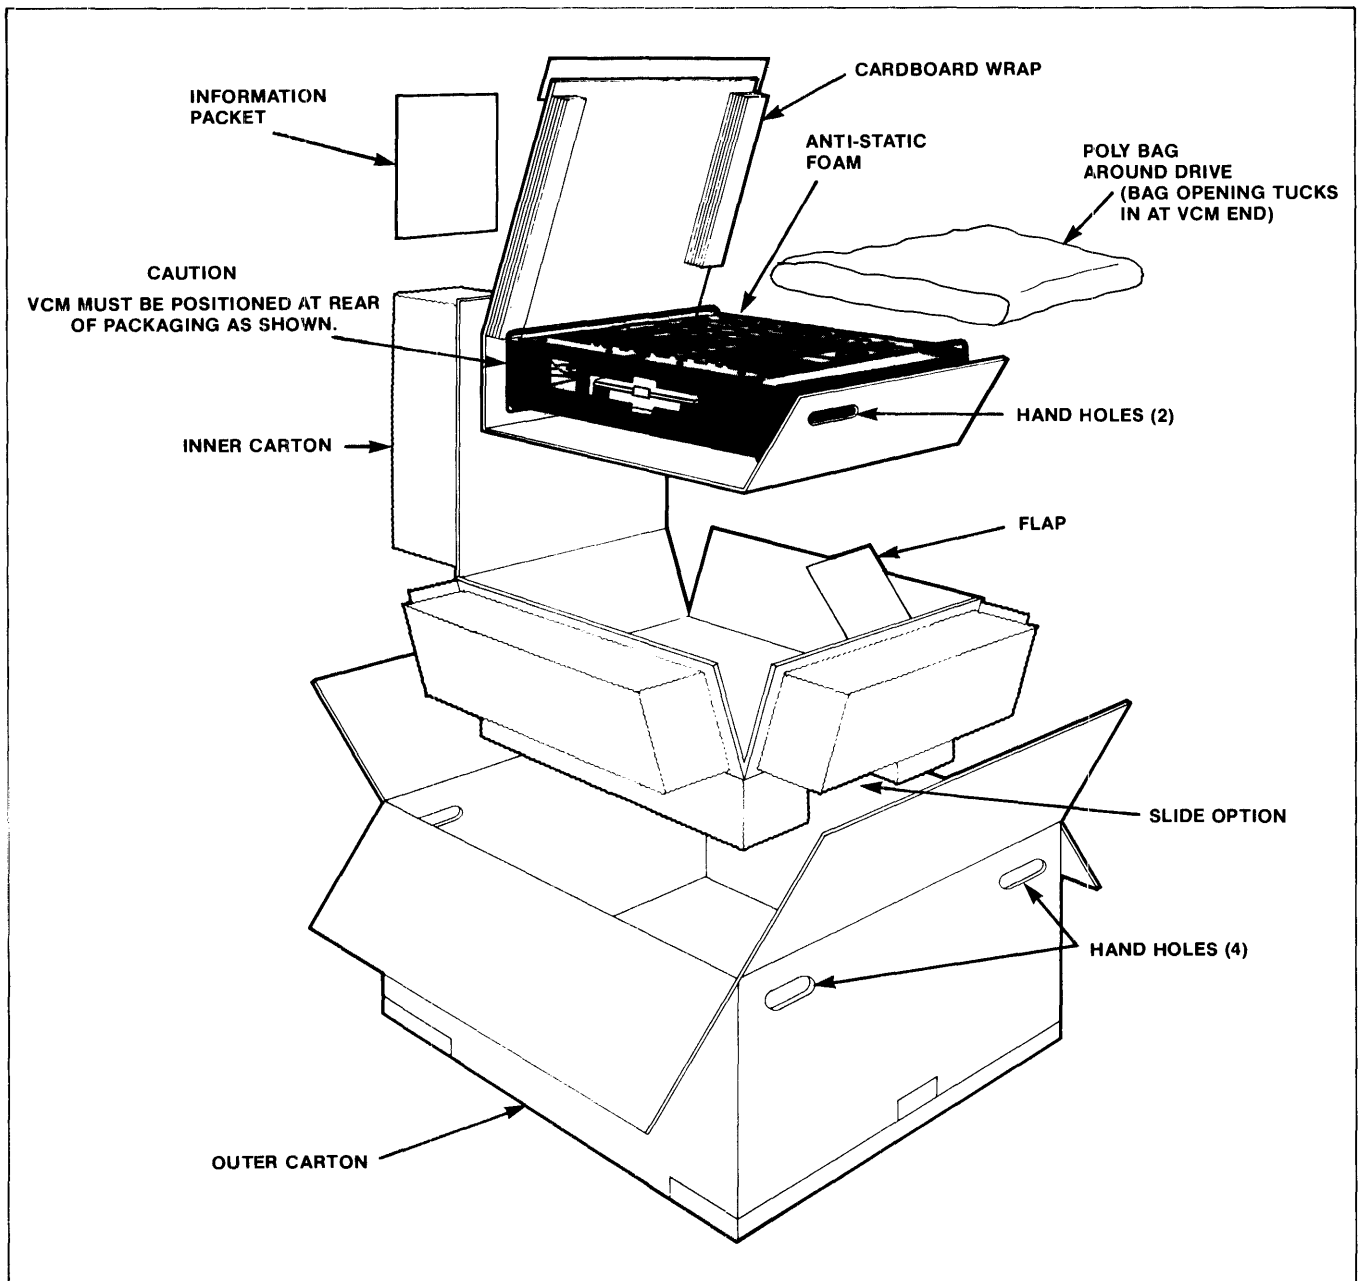

Figure 3-1. Shipping Package
3.2.2 Removing Drive From Shipping Container. The drive shipping container consists of an outer and inner carton. (See Figure 3-1.) Open